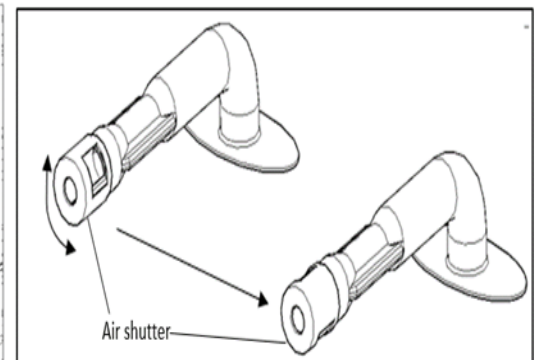

FIGURE 7
- iv. Locate the air shutter on gas tube, rotate until opening is completely covered. **Figure 7**